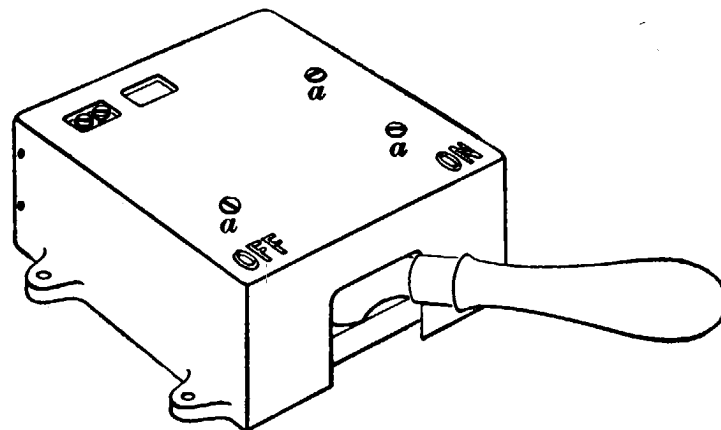

FIG. 13.
11. Westinghouse Canopy Switch.—Fig. 13 shows the general appearance of the Westinghouse switch. The switch fixtures are mounted on a wooden base and over the whole is fitted the iron cover provided with four legs, by means of